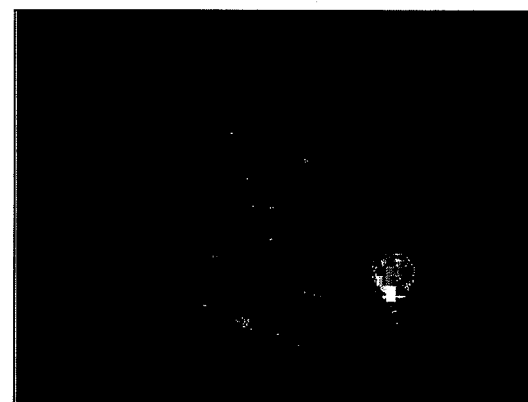

Figure 24
6. Make sure the recovery tank lid is on correctly. See figure 24.